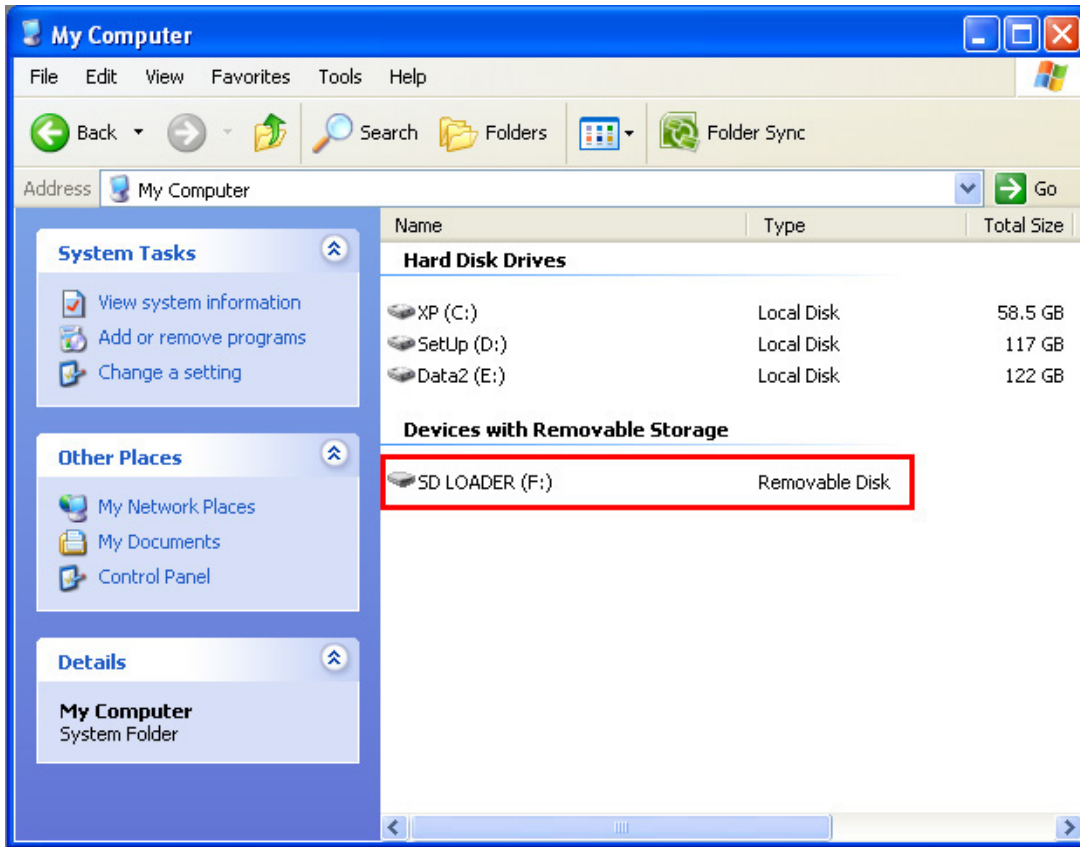

Figure J-10. SD loader
4. Double-click on My Computer icon, USB Video device icon is also appeared as shown in Figure J-10